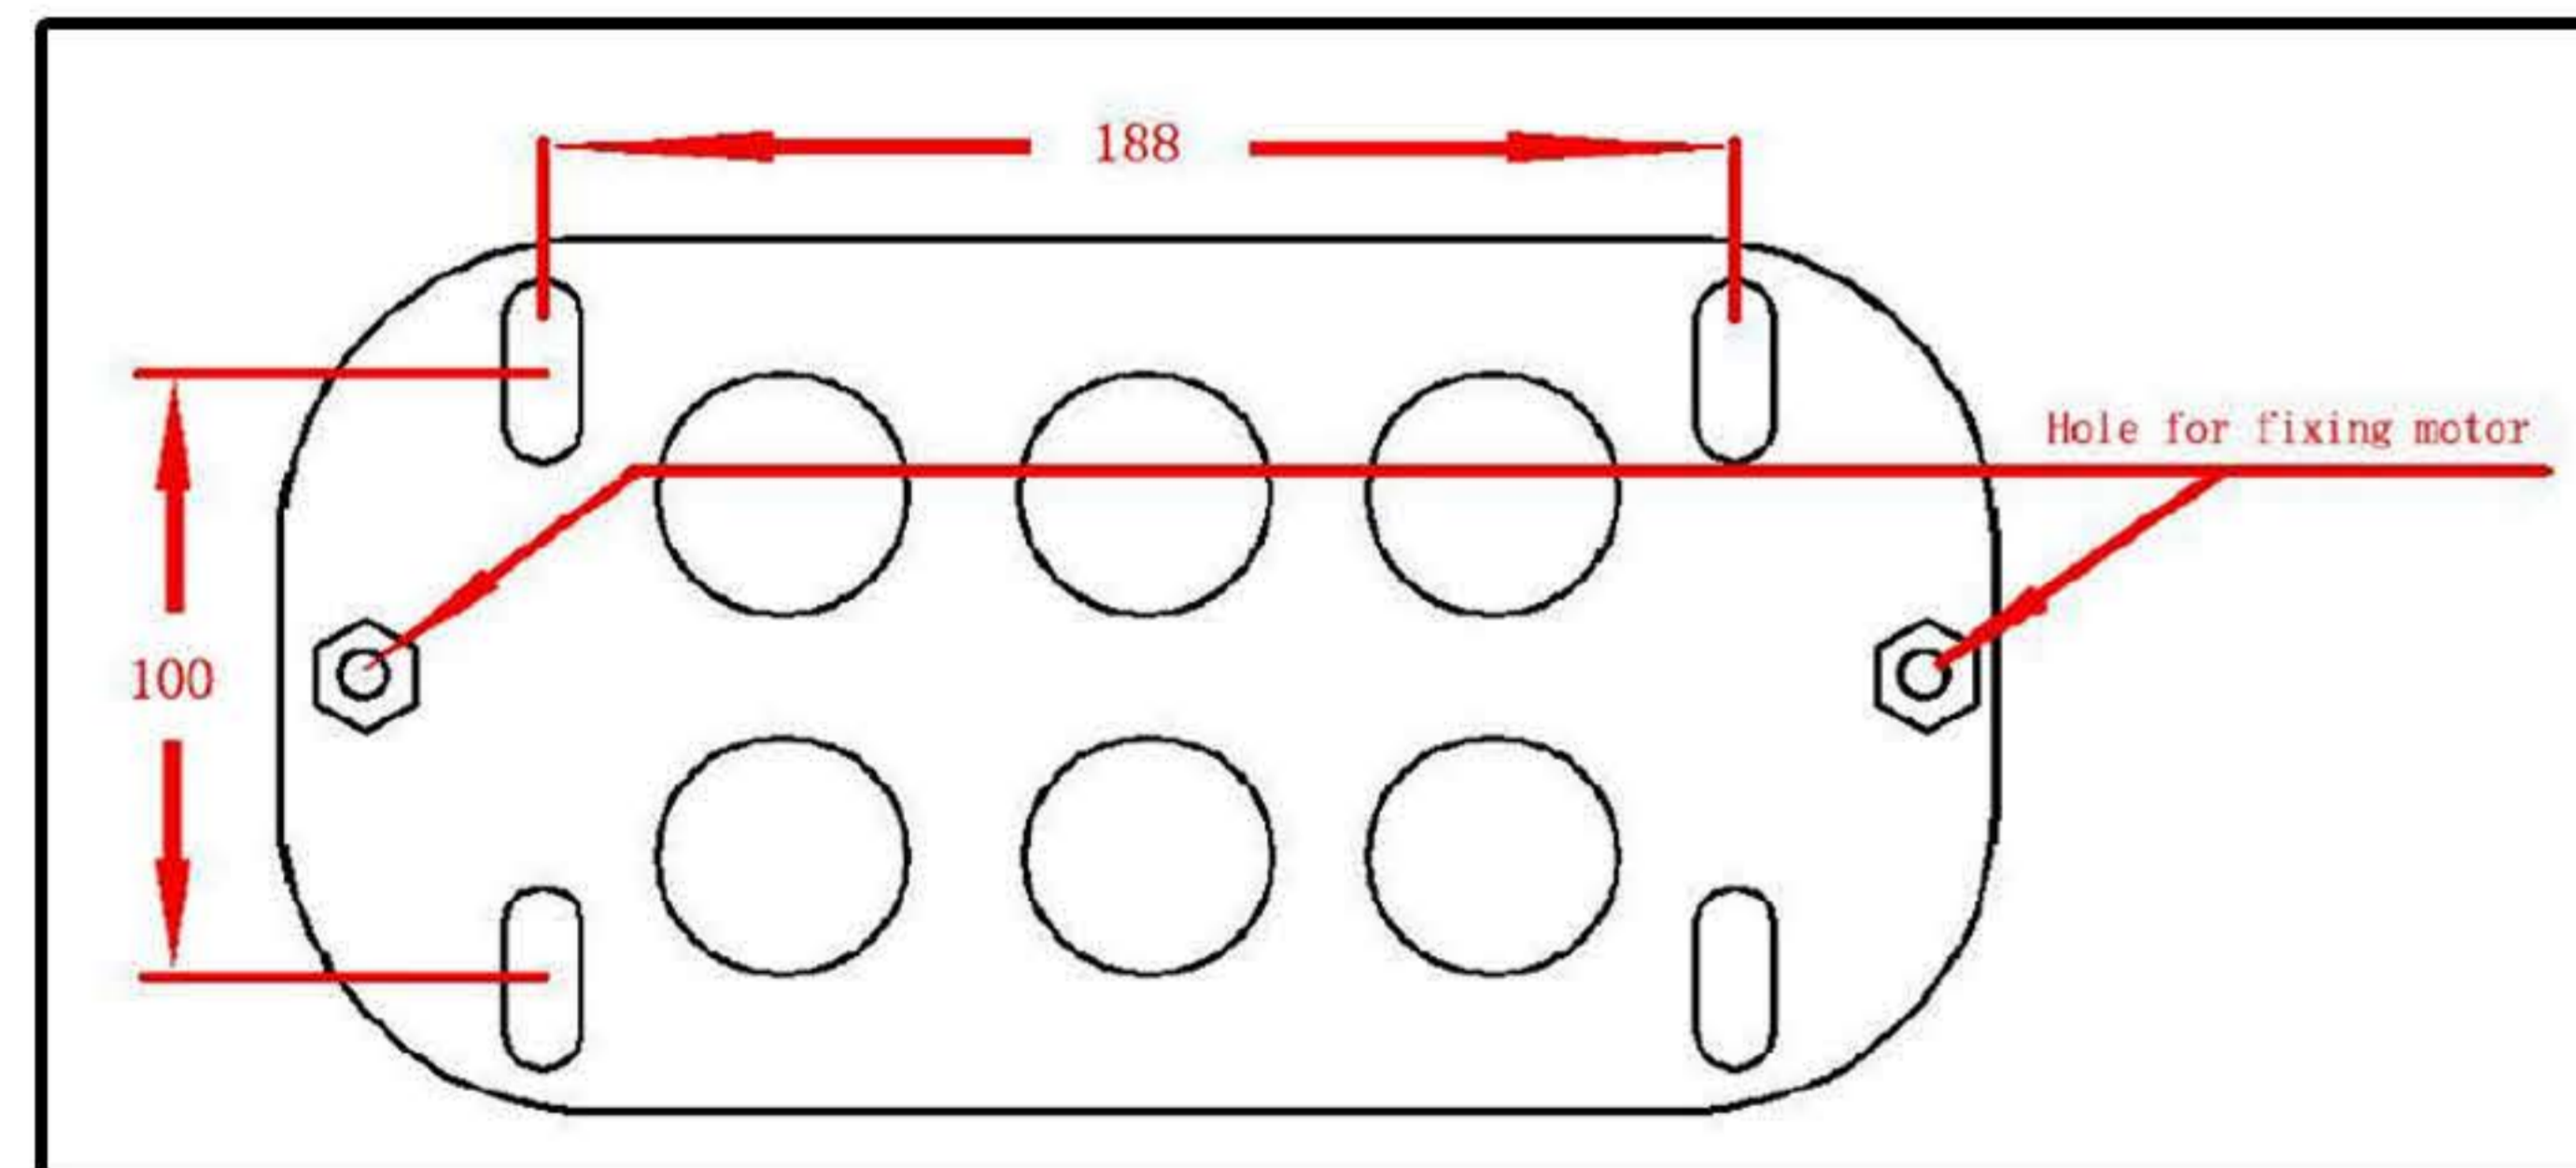

Figure 3
1. Depending on the installation size of the motor and mounting height of racks, after the installation position of the motor base plate, first let the bolt embedded or use expansion bolt make base plate fixed on watering good cement foundation. See Fig 3